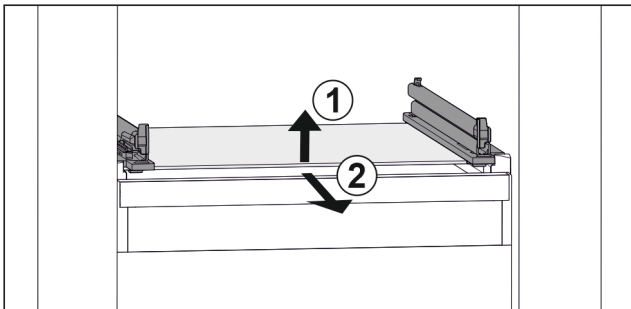

Fig. 105 Example illustration of glass shelf
- Lift glass shelf at the front. Fig. 105 (1)
- Remove glass shelf to the front. Fig. 105 (2)